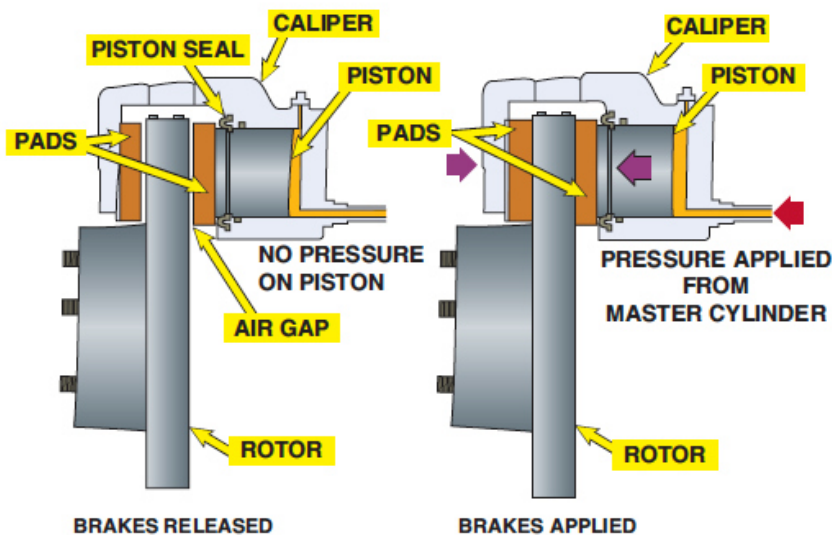

Figure 2. Brake caliper and rotor operation.
- The brake caliper uses hydraulic pressure to create the mechanical force required to move the brake pads into contact with the brake rotor. Figure 2.